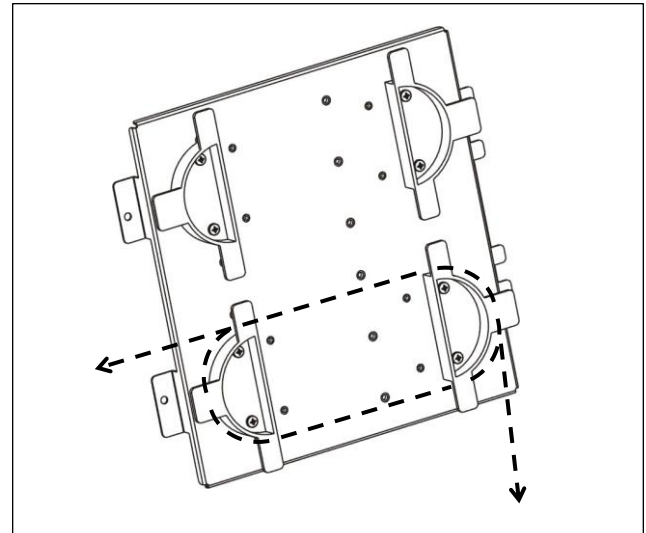

Figure 11. Cable take-up reel routing
- ① Slide the two narrower tabs at the edge of the SPL-4H into the openings on the side of the WR-15U, toward the rear of the mounting.
- ② Align the wide tabs at the front edge of the SPL-4H with the threaded holes on the side of the WR-15U frame. Use the two (2) included #10-32 x 3/8" screws to securely fasten the side plate to the frame.
- ③ Carefully wrap cables around the take-up reels to reduce slack as needed. Example routing is shown in Figure 11. Alternate mounting holes are included on the side plate for repositioning the half-reels, if desired.